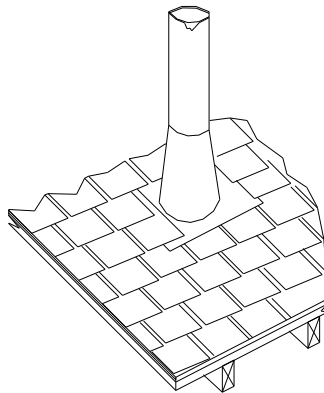

Figure 12
- Slip the flashing over the Pipe Section(s) protruding through the roof. Secure the base of the Flashing to the roof with roofing nails. Ensure the roofing materials overlap the top edge of the Flashing as shown in Figure 12. Verify that you have at least the minimum clearance to combustibles at the roof line.